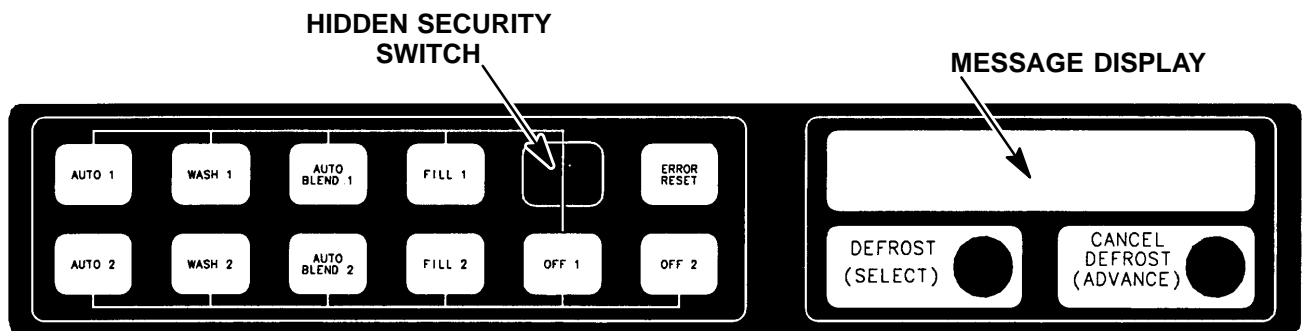

FIGURE 3. CONTROL PANEL ASS'Y
NOTE: The Unit control panel assembly is equipped with a hidden “SECURITY SWITCH” located between “FILL 1” and “ERROR RESET” control switches (see Figure 3). Pressing in and holding the “SECURITY SWITCH” for 3 seconds deactivates the control switches preventing tampering with Unit normal operation. To reactivate the control switches, press in and hold the “SECURITY SWITCH” for 3 seconds.
NOTE: The Unit control panel switches are as shown in Figure 3.
1. Press “AUTO 1”, “WASH 1”, and “BLEND 1” control switches (see Figure 3) at the same time and hold them pressed for a minimum of 1/2 second to bring up MAIN MENU SELECTIONS on message display. The word “CLOCK” will appear on display. You are now in the MAIN MENU SELECTIONS as shown in 4To advance through the MENU SELECTIONS, repeatedly press the “CANCEL DEFROST” (ADVANCE) switch. Once you reach the desired selection, press the “DEFROST” (SELECT) switch to lock in on the selection.